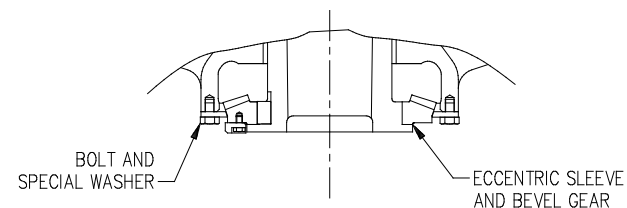

Fig. 6.8.4
9. Remove extra long studs in sequence and replace with bolts. (Fig. 6.8.4)